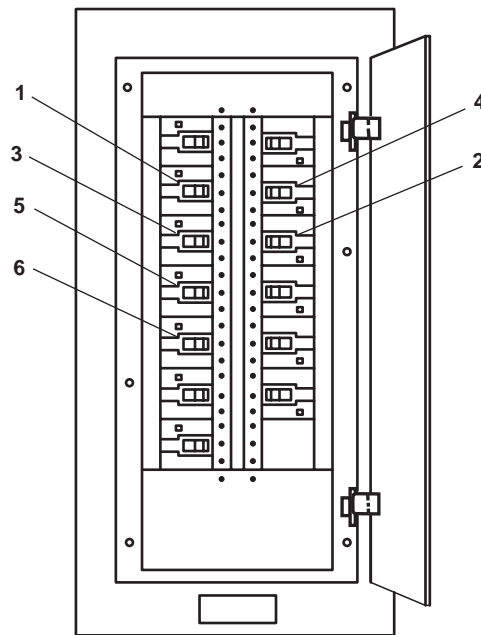

Figure 5. 440V Power Panel No. 1
- a. FRESH WATER PUMP No.1 (REDUCTION GEAR). (figure 5, item 1)
- b. MAIN ENGINE LUBE OIL PRIMING PUMP No.1. (figure 5, item 2)
- c. MAIN ENGINE JACKET WATER HEATER No. 1./TURBO OIL PUMP No. 1./WATER LAY OVER PUMP No. 1. (figure 5, item 3)
- a. FRESH WATER PUMP No. 2, (REDUCTION GEAR) (figure 5, item 4)
- b. MAIN ENGINE LUBE OIL PRIMING PUMP No. 2. (figure 5, item 5)
- c. MAIN ENGINE JACKET WATER HEATER No. 2/TURBO OIL PUMP No. 2./WATER LAY OVER PUMP No. 2. (figure 5, item 6)